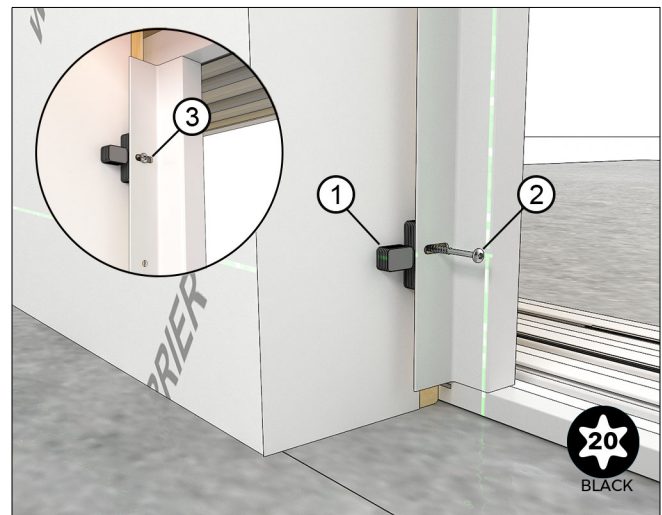

Figure 66 Attach interlock plumb to framing.
4. Shim and fasten the pocket interlock to the edge of the exterior framing and the inside surface of the exterior framing with #10 x 3" (76) installation screws. Make sure the interlock is plumb and not twisted in the opening. See Figure 66.